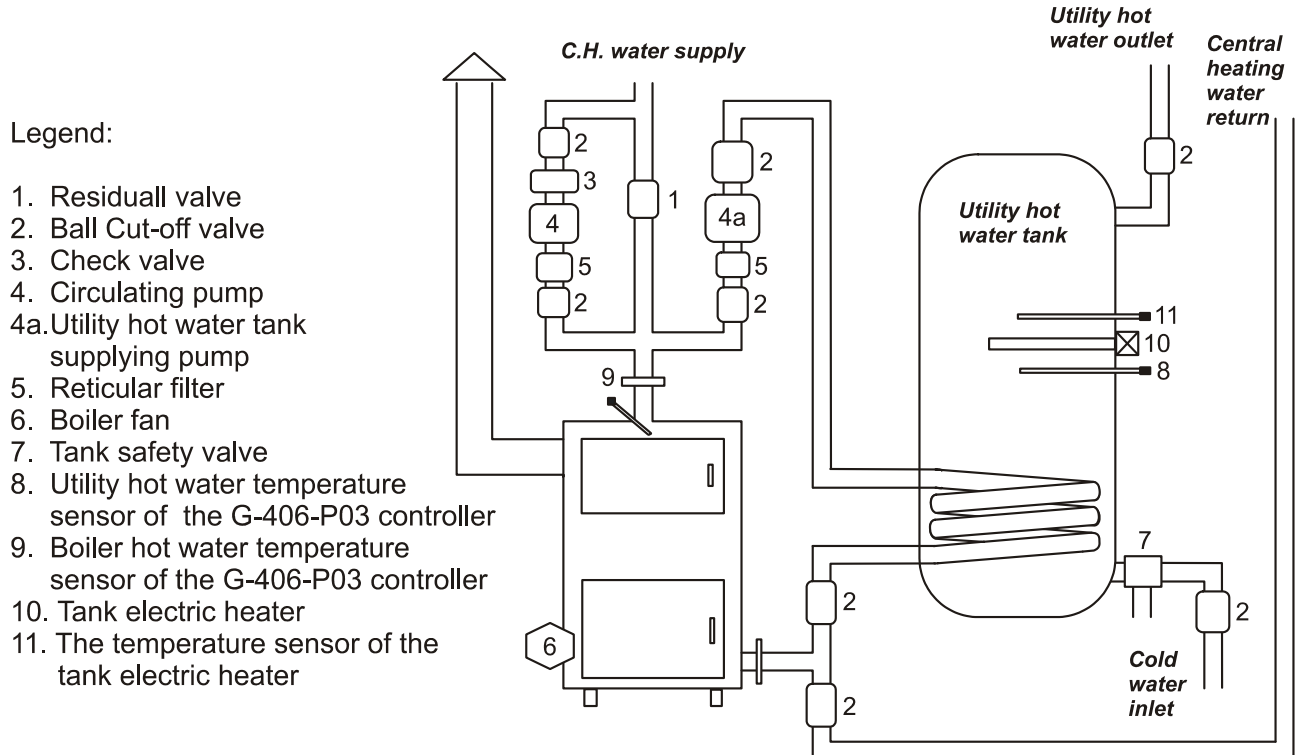

Figure 1. Central heating system block diagram (one circulating pump and one utility hot water tank replenishing pump).
1. Connect the boiler in accordance with the diagram shown in figure 1.